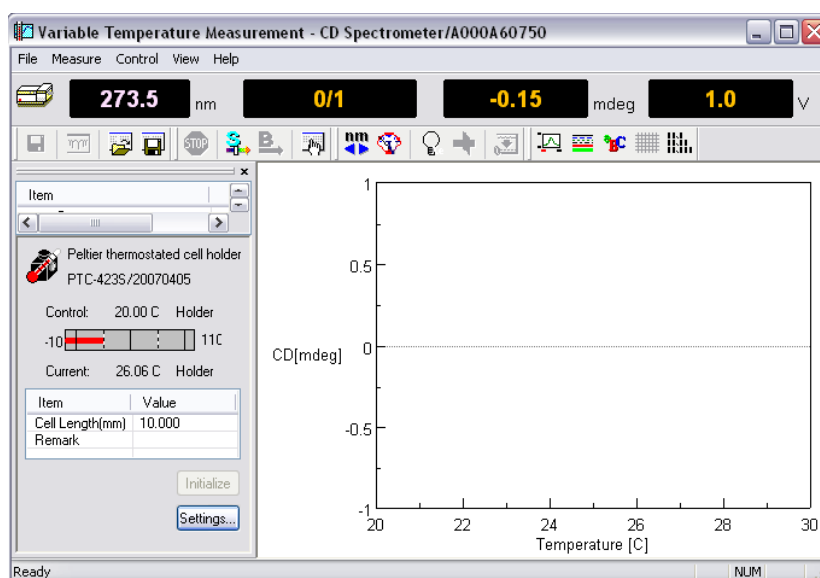

Figure 4.1 [Temperature Variable Measurement] window
- (3) Select [PTC-423S] from the [Control] menu or click the <Settings...> button of Figure. 4.1. The following dialog box appears.
- (1) Click the  icon or select [Parameters...] from the [Measure] menu of Figure. 4.1. The following dialog box appears. The parameters setting dialog box is composed of the [Temperature], [General], [Control], [Information] and [Data] dialog boxes. Clicking a tab at the top of the dialog box changes the dialog box. Refer to Section 3.1.1 for descriptions of these functions.
CASE I: The dialog depicted on the left side of Figure. 4.5 appears following the case using the parameters depicted in Section 4.2.3. (when the [Blank] menu was selected in the [Control] - [Parameters] dialog box). Clicking <Measure> starts the [Blank] measurement which is a one-point measurement. During measurement,  becomes inactive, as indicated by the gray icon  or selecting  - [Measure] from the [Variable Temperature Measurement] window (see Figure. 4.1) if you need to perform an emergency stop.
CASE II: The dialog depicted on the right side of Figure. 4.5 appears when [Baseline] is selected, which is in the [Parameter] - [Measure] menu of [Variable Temperature Measurement] window (see Figure. 4.1). Clicking the <Measure> button starts the [Baseline] measurement and the following dialog appears.